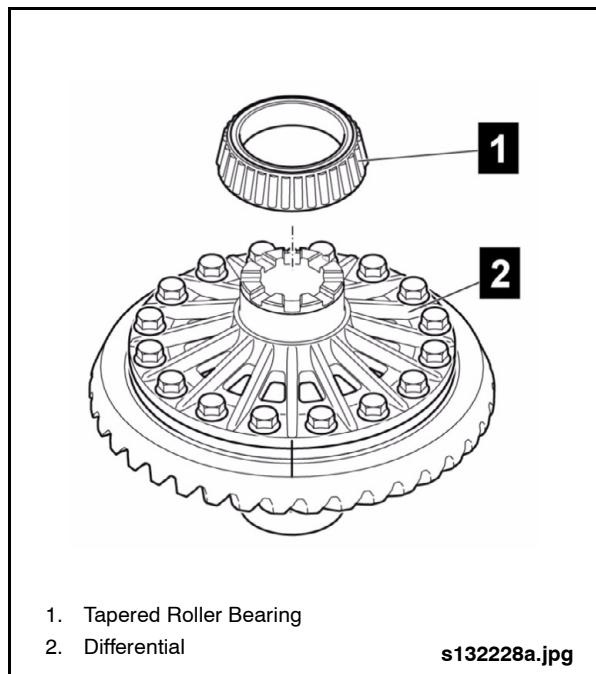

Fig. 2-68: Installing Tapered Roller Bearing on Lock Side
5. Use protective gloves and install tapered roller bearing onto differential bearing journal, ensuring bearing is fully seated. **See "Fig. 2-68: Installing Tapered Roller Bearing on Lock Side" on page 57.**